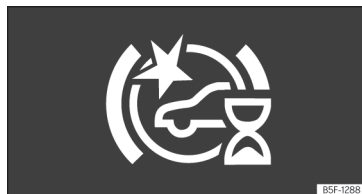

Fig. 168 On the instrument panel display: initial system self-calibration indication.
- In the first few instants of driving after switching on the ignition, due to the system's initial auto-calibration. During this phase, the instrument panel screen will display the following indication»» **Fig. 168**.
the ignition, the Front Assist may not be available for a short period of time while the system starts. During this phase, the instrument panel screen will display the following indication»» **Fig. 168**.